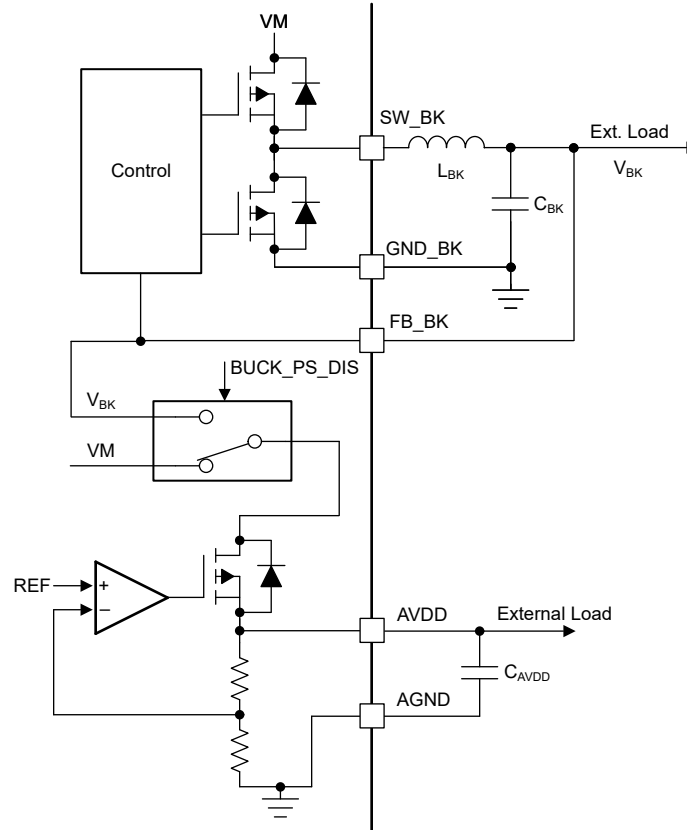

Figure 8-13. AVDD Power Sequencing on mixed mode Buck Regulator
The AVDD LDO has an option of using the power supply from mixed mode buck regulator to reduce power dissipation internally. The power sequencing mode allows on-the-fly changeover of LDO power supply from DC mains (VM) to buck output (VBK) as shown in Figure 8-13. This sequencing can be configured through the BUCK_PS_DIS bit. Power sequencing is supported only when buck output voltage is set to 5.0 V or 5.7 V.